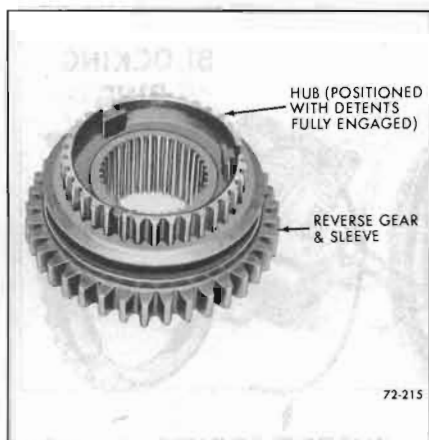

Figure 72-215—Sliding Sleeve into Hub
4. Slide sleeve onto hub until the detent is engaged. See Figure 72-215.